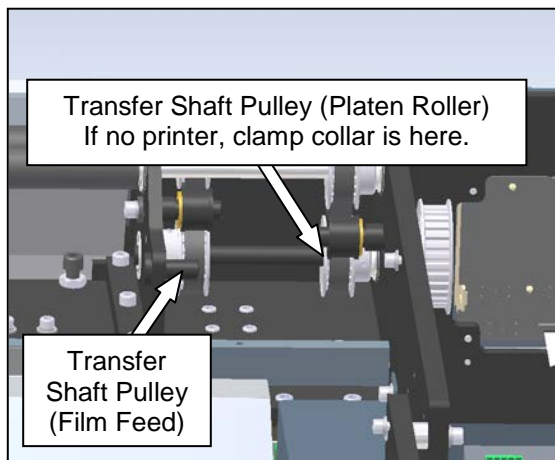

Figure 3-155 Pulley Identification
- Loosen the two set screws on the pulley on the transfer shaft (Figure 3-155). This will allow the pulley to slide on the transfer shaft. Also loosen the clamping collar located next to the middle frame plate. (Note: if the model SX™ is equipped with a printer, the platen roller drive pulley set screws will also need to be loosened to allow the transfer shaft to slide. This pulley is the substitute for the clamping collar. Refer to Figure 3-155 for details.)